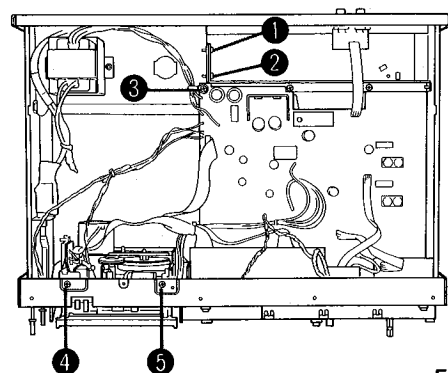
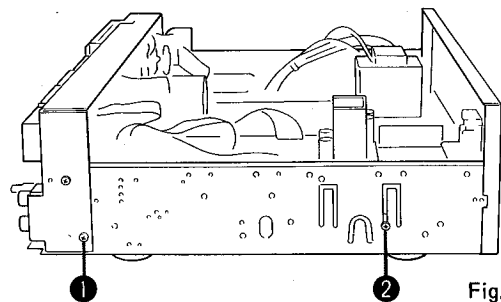
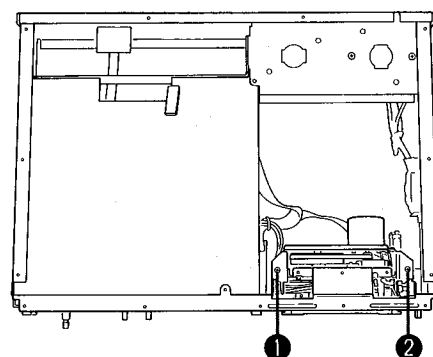

Fig. 5
Fig. 6
Fig. 7
5. Remove the screws 1 to 3 in Fig. 5 and the screws 1 and 2 in Fig. 6 and then pull out main P.C. board backward.
3. Remove the screws 4 and 5 in Fig. 5 and the screws 1 and 2 in Fig. 7 and then remove the cassette tape recorder mechanical assembly backward.